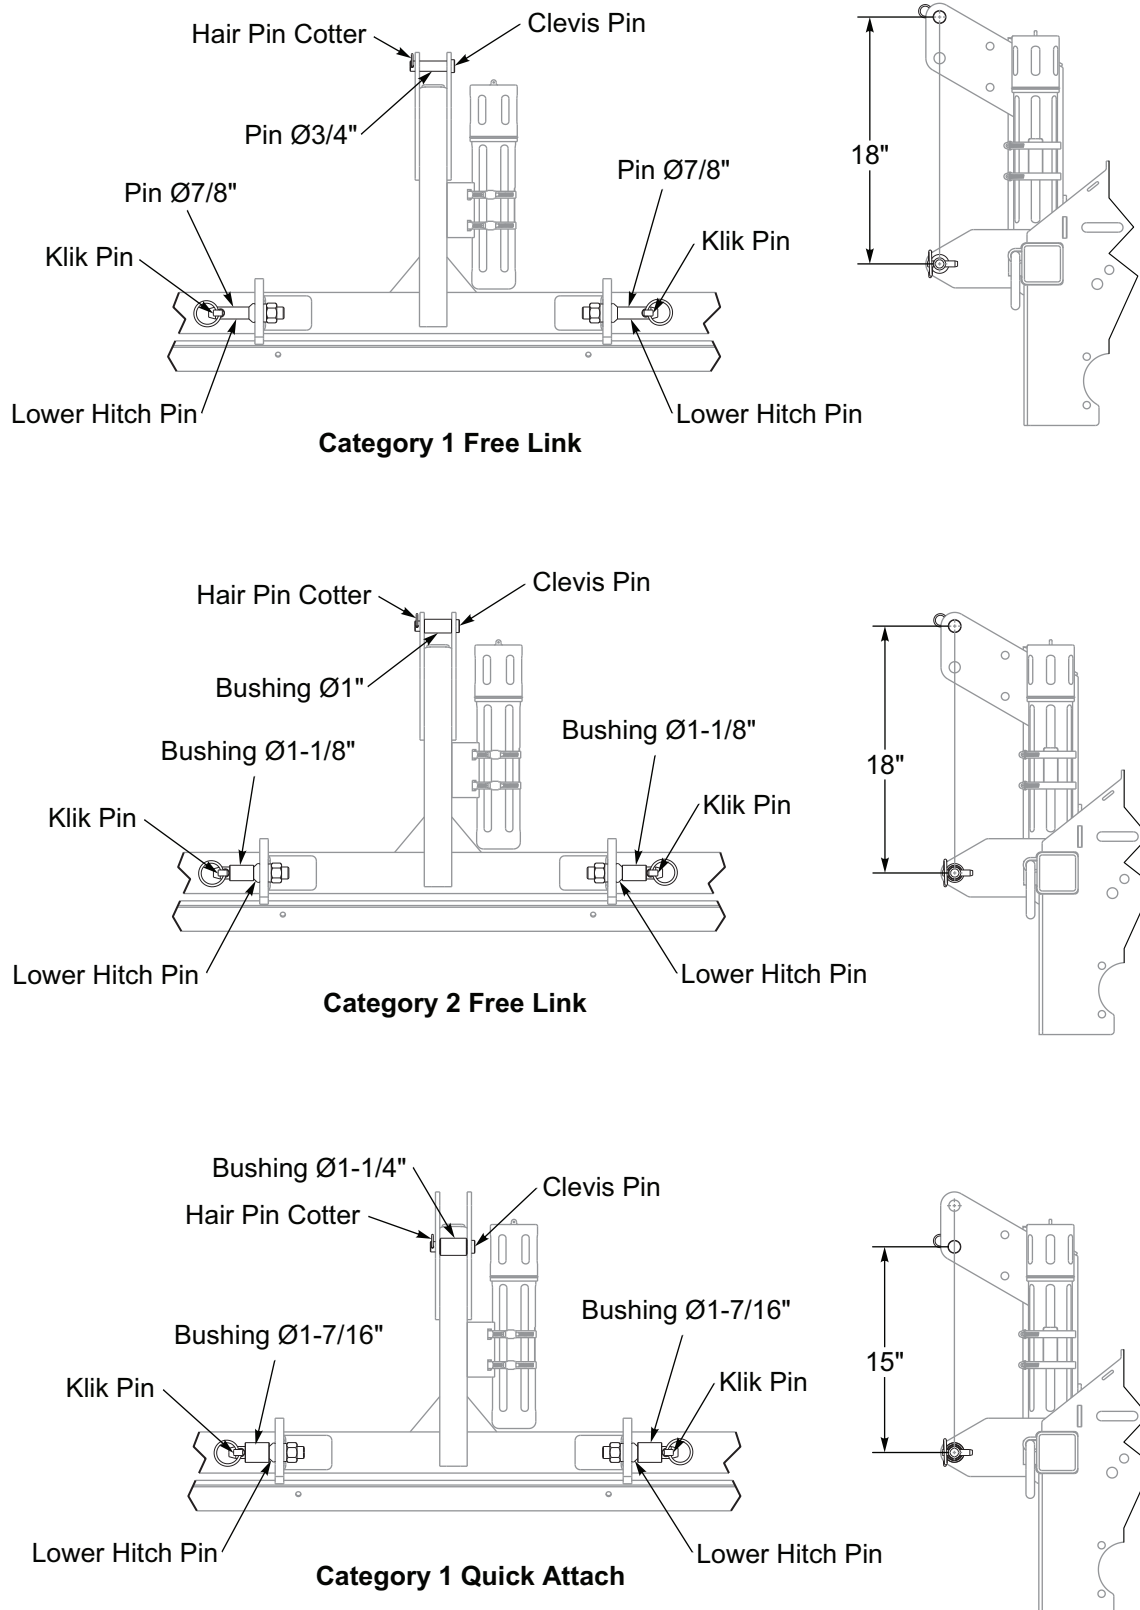

Figure 3-3: 3-PT Hitch - Category Pin Positions
1. The Seeder is designed to be used with Category 1 or 2 Free Link, Category 1 Quick Hitch. **See Figure 3-3.** Be sure Tractor's Hitch Capacity is not exceeded by the Laden Mass of the Seeder. **Refer to Tractor Operator's Manual.**
1. Attach Seeder to the Tractor's 3-PT Free Link or Quick Hitch using the appropriate size pins and bushings. Be sure to use the hardware provided and is in good working order. **See Figure 3-3.**